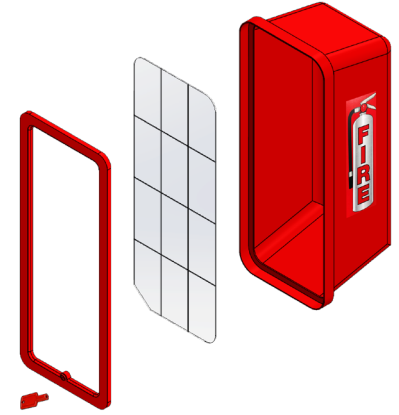

Figure 1: Cato Chief Assembly Tub, Acrylic, Frame, Hex Key
1. Remove all hardware and glazing, unlock cabinet if lock provided (figure 1).